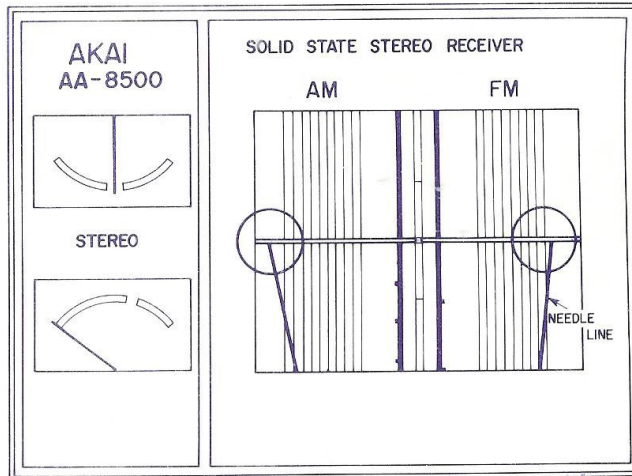
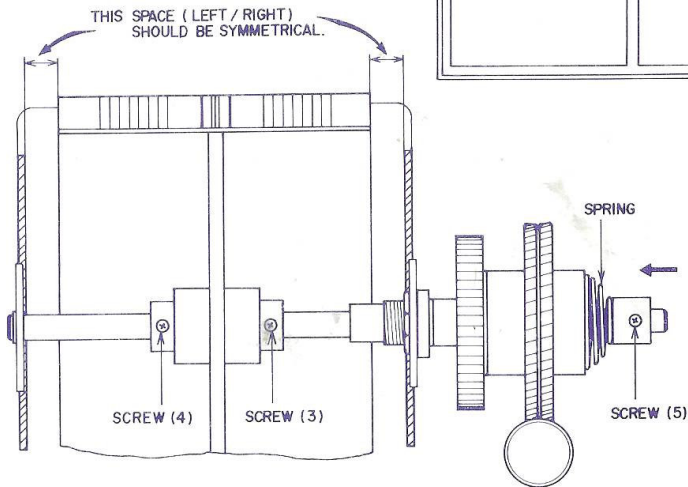

Fig. 17
Fig. 18
- Adjust Screws (1) and (2) so that as the dial is rotated from end to end, the teeth of the fan-shaped gear (last tooth on both ends) are symmetrical (left/right) and comes to the center of the meshing gear.
- Adjustment is made with dial scale at extreme top position (knob turned to extreme left). Tighten screws (3) and (4) so that dial drum is in exact center of dial scale (Fig. 17) and at position where needle lines (right and left) are exactly aligned with horizontal line at middle of dial (as shown in Fig. 18).